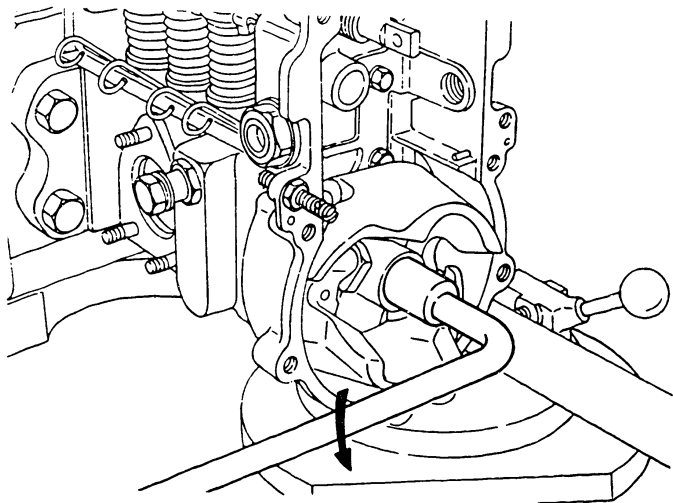

Fig. 82 Removing the locknut
30. Using the wrench (KDEP 2626) and L-bar handle, remove the locknut (103) securing the flyweight. (Fig. 82)